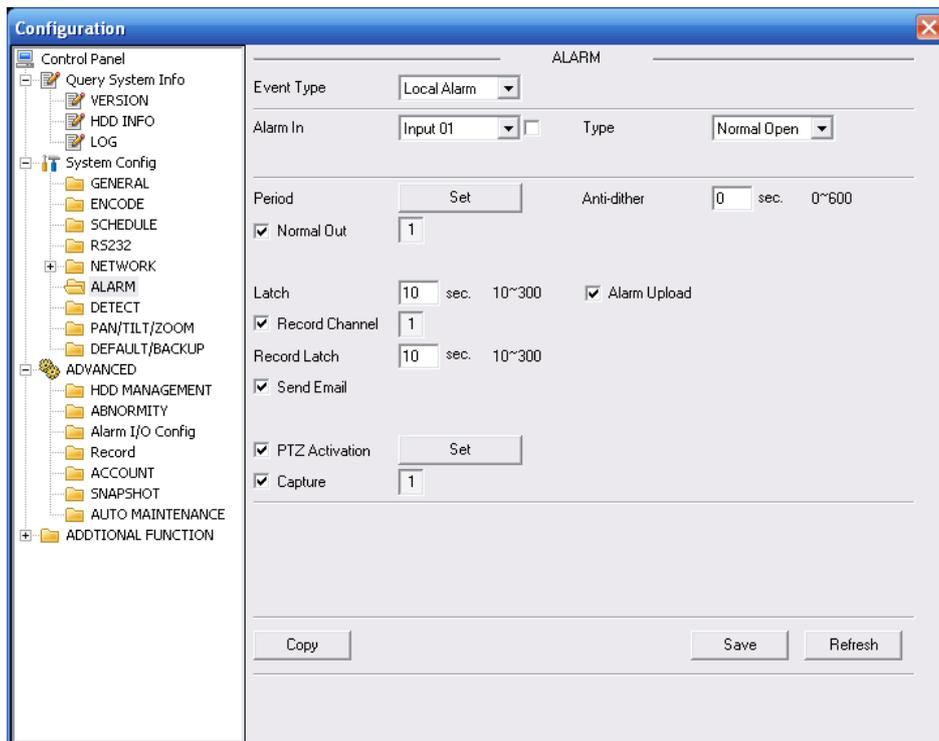

Figure 2-7
The alarm interface is shown as in Figure 2-7. Please follow the steps listed below for local alarm input and output connection.
- 3) Open the Web, go to the Figure 2-7. Please set the alarm input 01 port for the brown-pin (the 1st channel) of I/O port cable. The alarm input 02 is for the grey-pin (the 2nd channel) of I/O port cable. Then you can select the corresponding type (NO/NC.)